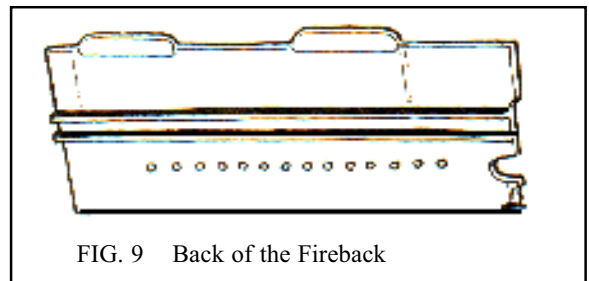

FIG. 9 Back of the Fireback
*Cement the edges of the two ribs on the Lower Fireback (FIG. 9).*